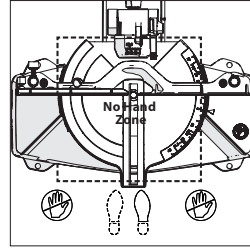

Fig. 7
**BODY AND HAND POSITIONING (Fig. 7)**